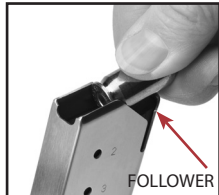

Figure 16
3. Ensure that you are using the proper caliber ammunition for your firearm. Place rim of first cartridge on front of follower (See Figure 16) then push the cartridge down on the follower and slide the cartridge under the lips of the magazine completely to the rear. Load successive rounds by pushing cartridge down on previously loaded cartridge. Use only clean, dry, original, high-quality, commercially manufactured ammunition. Using reloaded ammunition may void warranty.